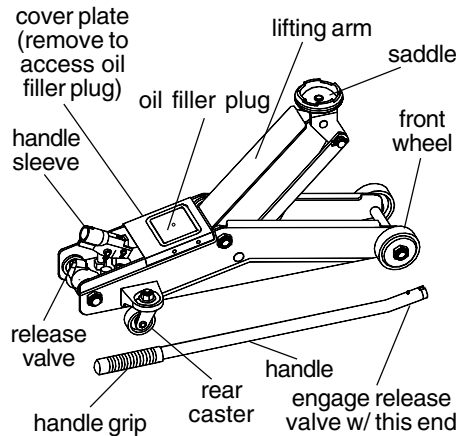

Figure 1 - Typical speedy lift floor jack Nomenclature
**Lifting** (refer to Fig 1, Page 2)